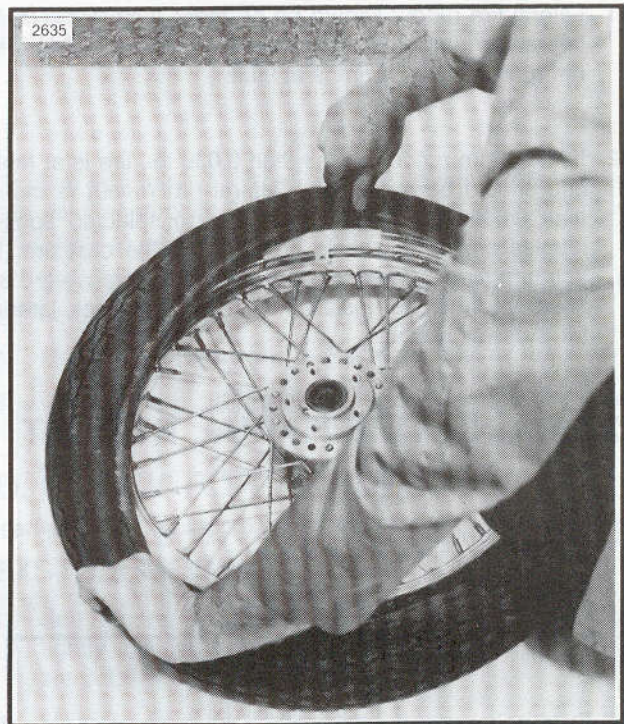

Figure 2-30. Starting Second Bead on Rim
9. See Figure 2-30. Starting 180° from valve stem, start the second bead onto the rim. Work the bead onto the rim with tire tools, working toward valve in both directions. Remove the valve core from the valve stem before prying the remaining bead over the rim flange.